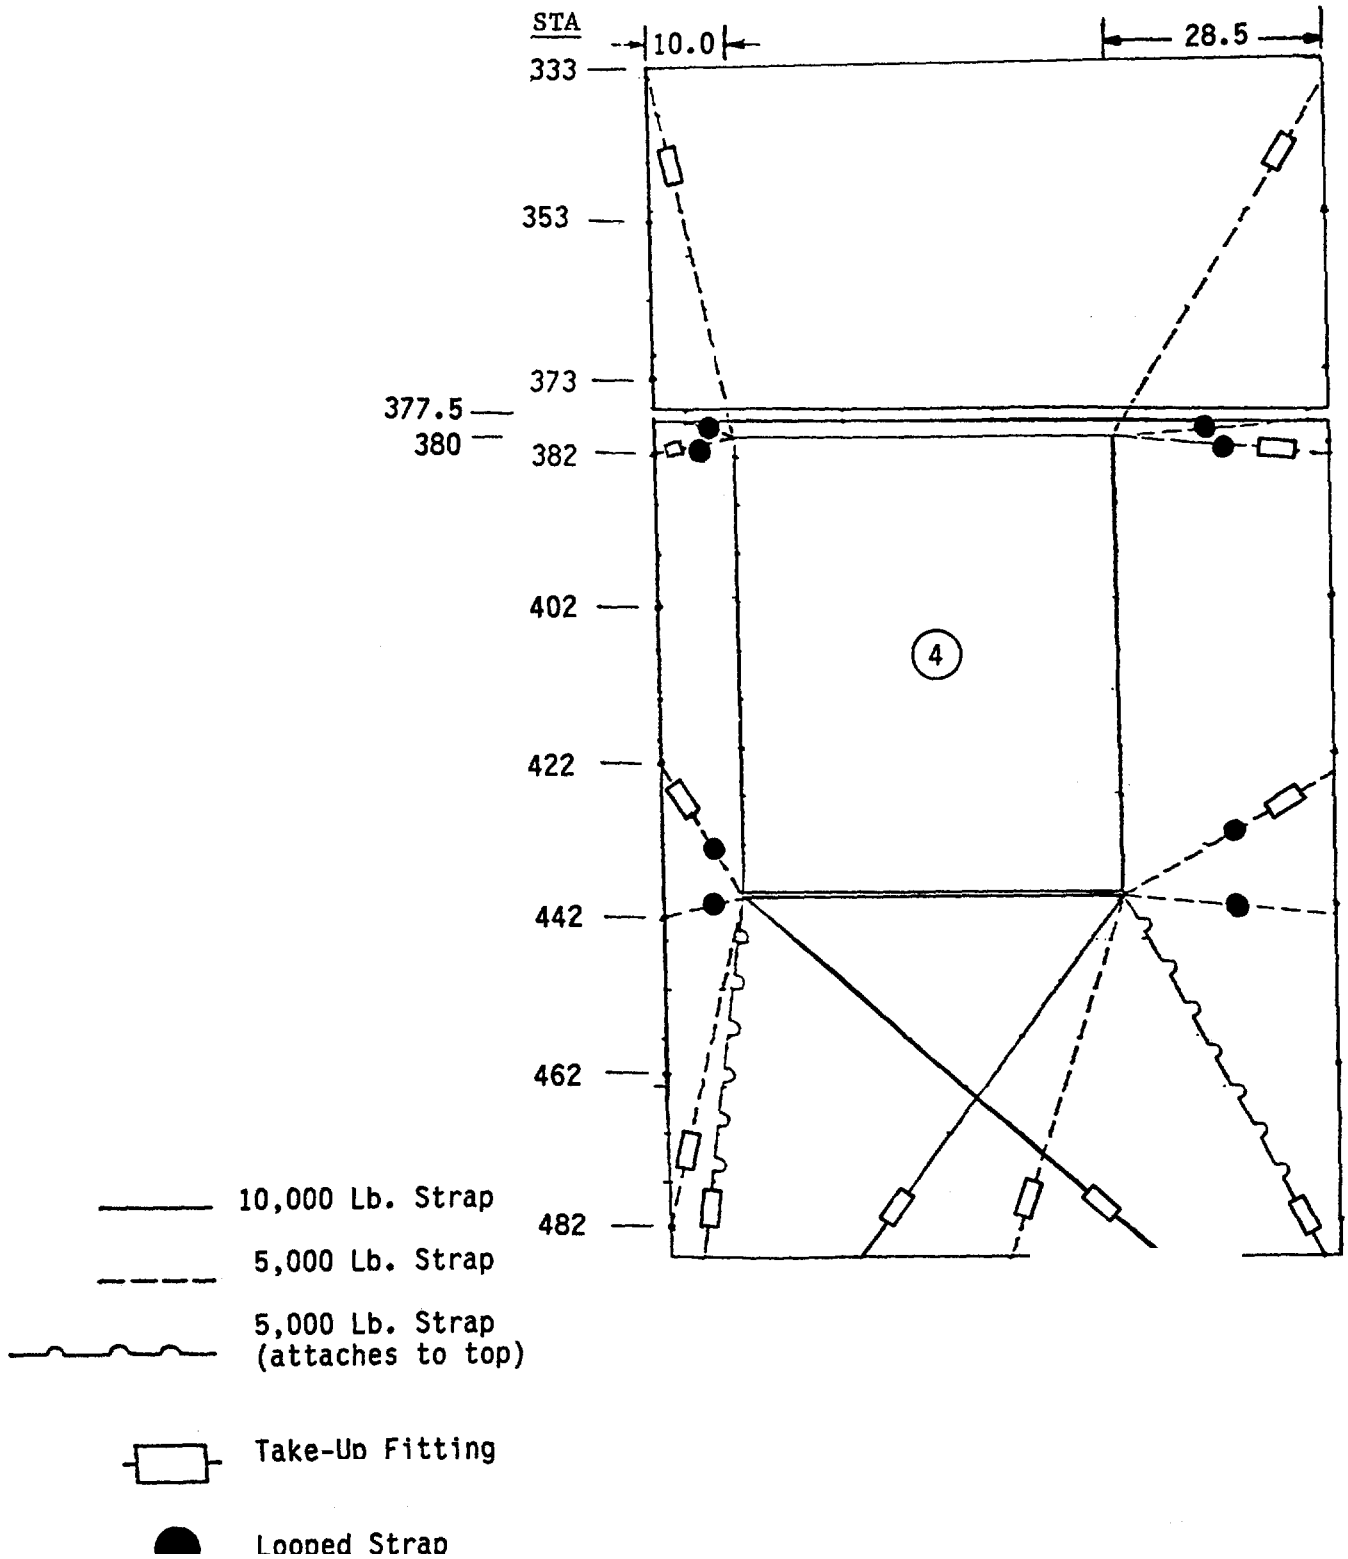

Figure 2-16. Four Tanks with Pallets
- Four tanks w/pallets, Fig 2-16